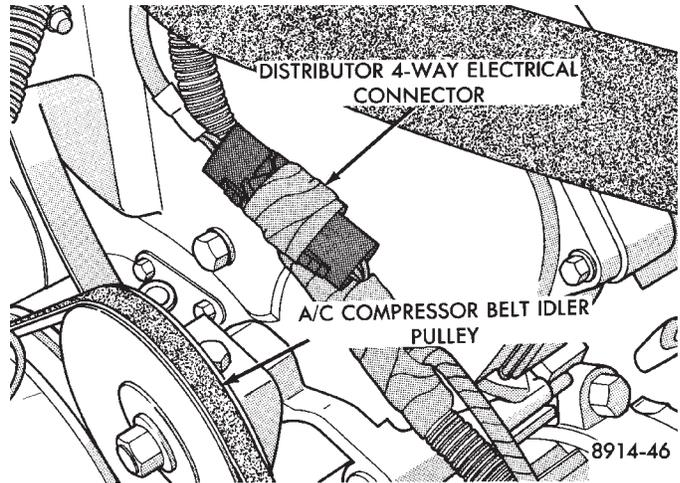

Fig. 20 Distributor Electrical Connector—3.0L Engine
- (1) Disconnect distributor connector from wiring harness connector (Fig. 20).
(3) Install distributor cap. Ensure sure all high tension wires are firmly in the cap towers.
(4) Install hold-down nut and finger tighten.
(5) Connect distributor electrical connector to wiring harness connector (Fig. 20).
(6) Set ignition timing to specification. Refer to Ignition Timing in this section.